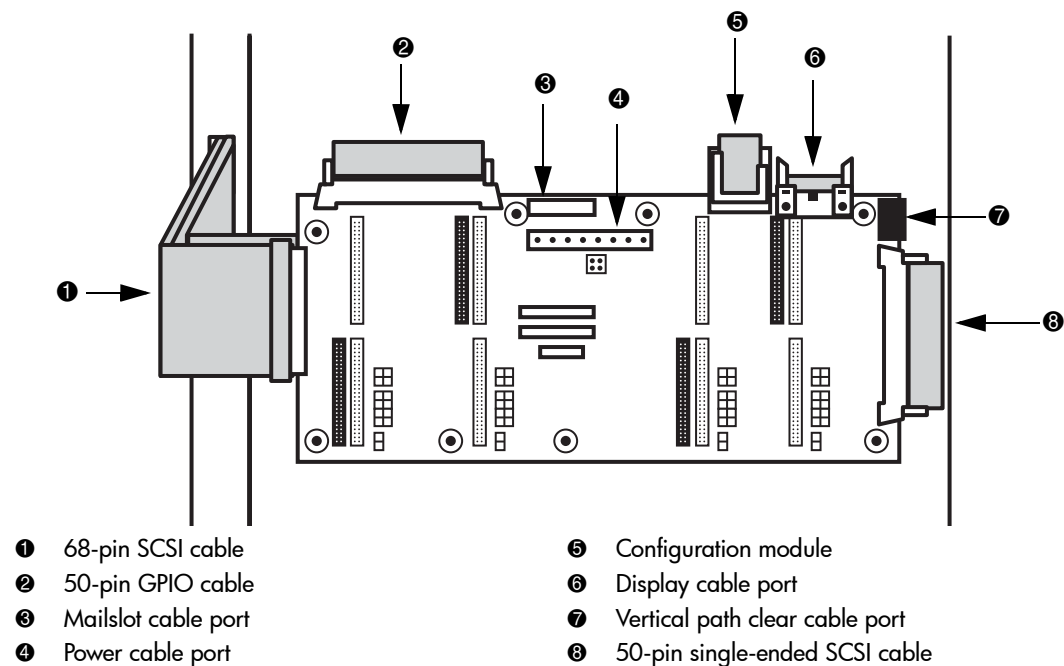

Figure 23: Disconnecting interposer cables and removing screws
2. Disconnect all cables to the interposer PCA (see Figure 23).